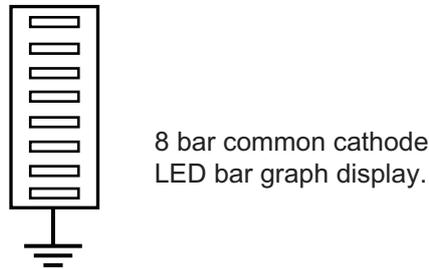

Fig. 2(d)
- (d) As a further development the output from the difference amplifier in **2(c)** is to be displayed on an 8 segment common cathode LED bar array as shown in **Fig. 2(d)**. A PIC with an analogue input and built in analogue to digital converter (ADC) is to be utilised to drive the LED bar array. There will be one bar array for each of the tanks shown in **Fig. 2(a)** and the digital range of the PIC is 0–255.